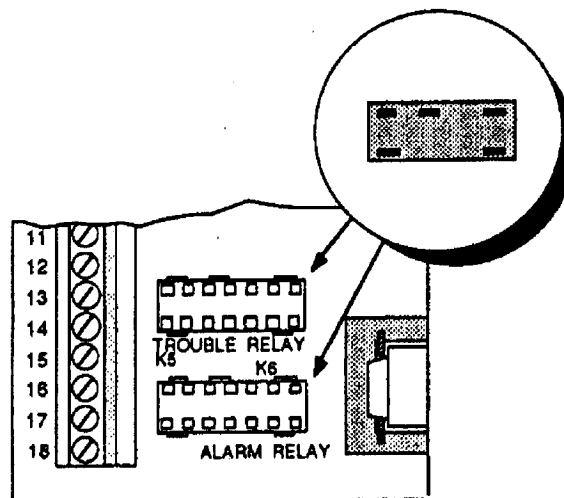

Figure 5: Relay Sockets
1. Slide back the 911A cover to expose the socket as shown in Figure 5.
2. The D136 relay has two pins on one side and three pins on the other side. Place the relay into socket with the pins oriented as shown in Figure 5. You can install the relay flush left or right.